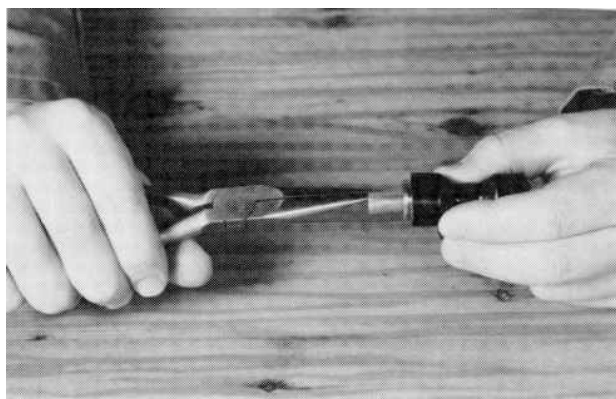

Figure 103 Remove Brass Tube Support
6. If the brass tube support remains in the fitting and is undamaged, leave it in place. If it remains in the fitting but looks damaged, remove it with needle nose pliers (Figure 103). Discard the brass tube support. If your fitting is equipped with a black molded tube support, it cannot be removed.